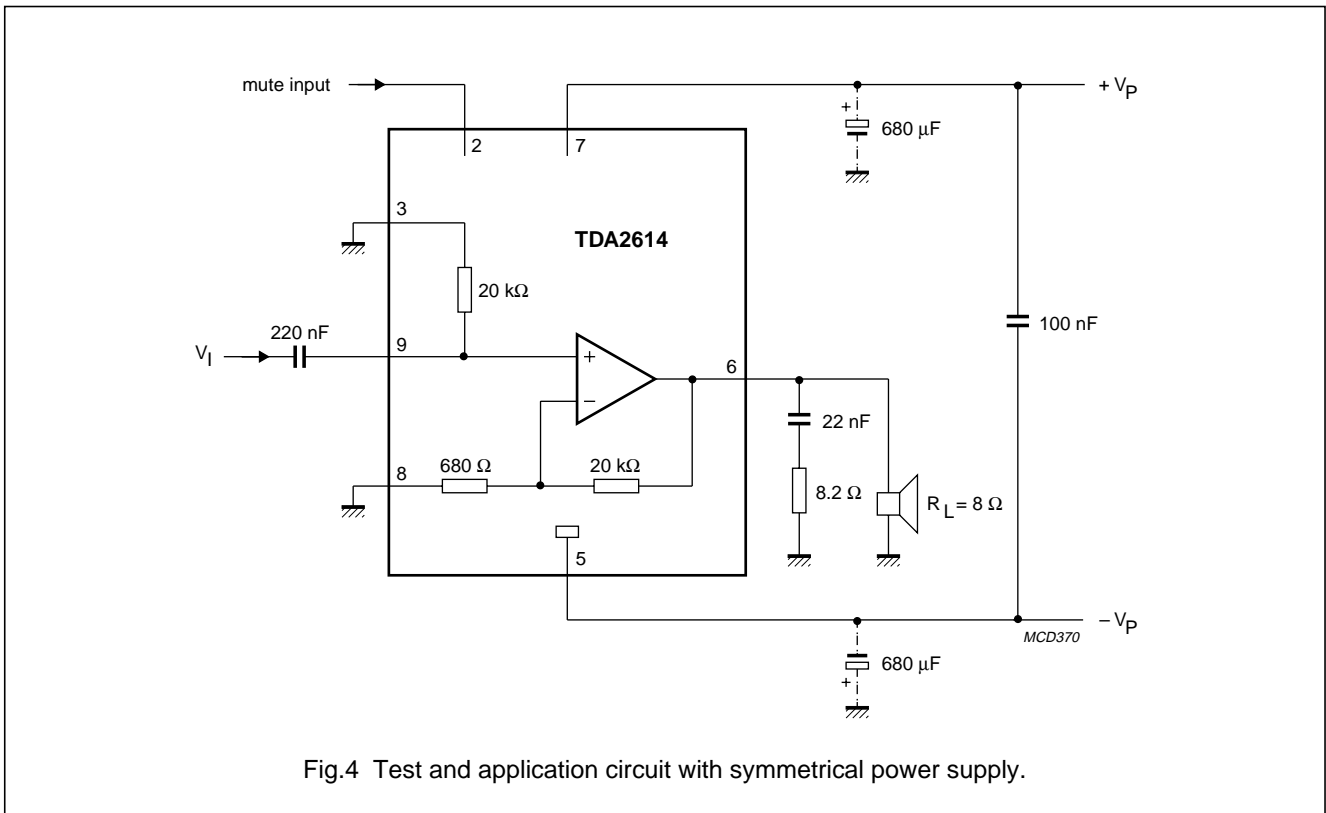

Fig.4 Test and application circuit with symmetrical power supply.
- $\pm V_P = 12$ V; $R_L = 8$ Ω ; $T_{amb} = 25$ $^{\circ}$ C; $f = 1$ kHz; symmetrical power supply $I_{MUTE} < 30$ μ A. See Fig.4